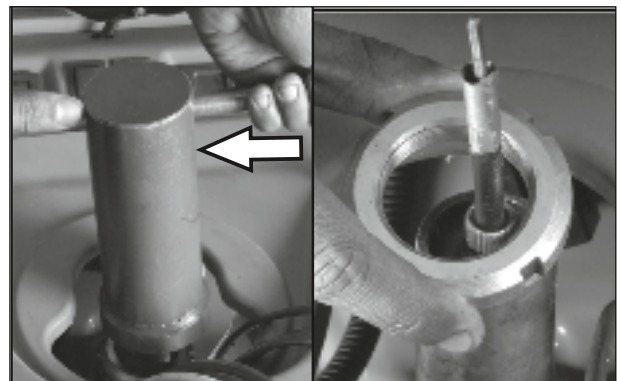

Fig. 2.104
- Loosen and remove the lock nut (Top) for steering column using special tool (Fig. 2.104)